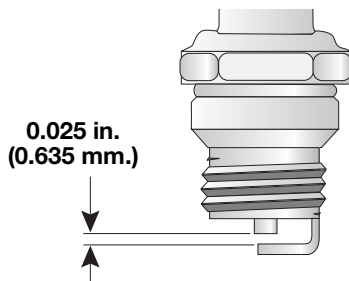

Fig. 40
3. Replace cracked, fouled or dirty spark plug. Set the air gap at 0.025 in. (0.635 mm.) using a feeler gauge (Fig. 40).